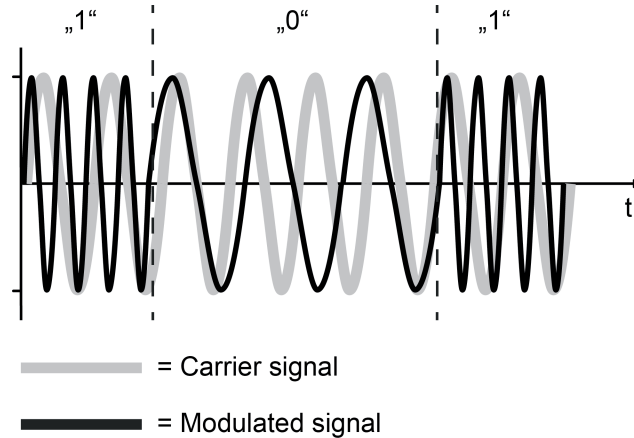

Figure 10: Frequency key shifting as a modulation method (FSK = Frequency Shift Keying)
An electromagnetic wave of a constant amplitude and frequency does not yet carry any information. To make this possible, the transmitter must change the amplitude or the frequency of the wave continuously according to an agreed method and the carrier signal must modulate the information in this manner. With KNX RF, the modulation type "Frequency key shifting" (FSK = engl. Frequency Shift Keysing) is used (figure 10). Frequency key shifting is a variant of frequency modulation (FM) and suitable for the transmission of digital information. Two time-coded signals of a different frequency are transmitted, in order to inform the receiver of the logical states "0" and "1". Frequency key shifting is impervious to interference. Even major transmission losses in signal amplitude do not have a negative effect on the demodulation of the transmitted information.